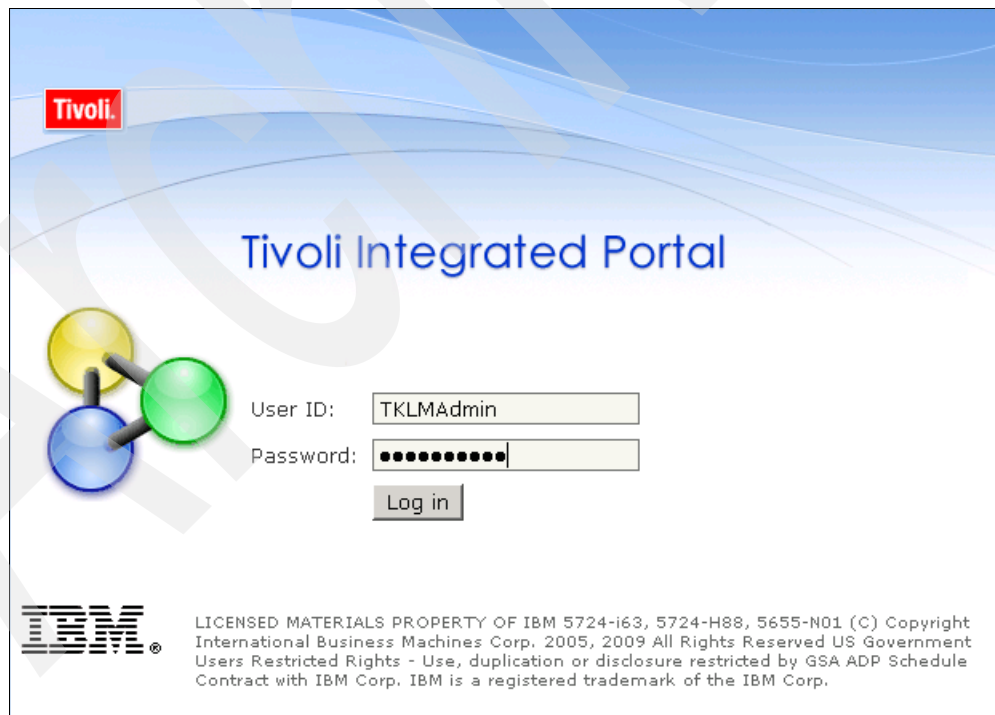

Figure 6-21 TKLM\_v2\_login\_pw
21. Enter the appropriate User ID and password and click **Log in** (Figure 6-21).